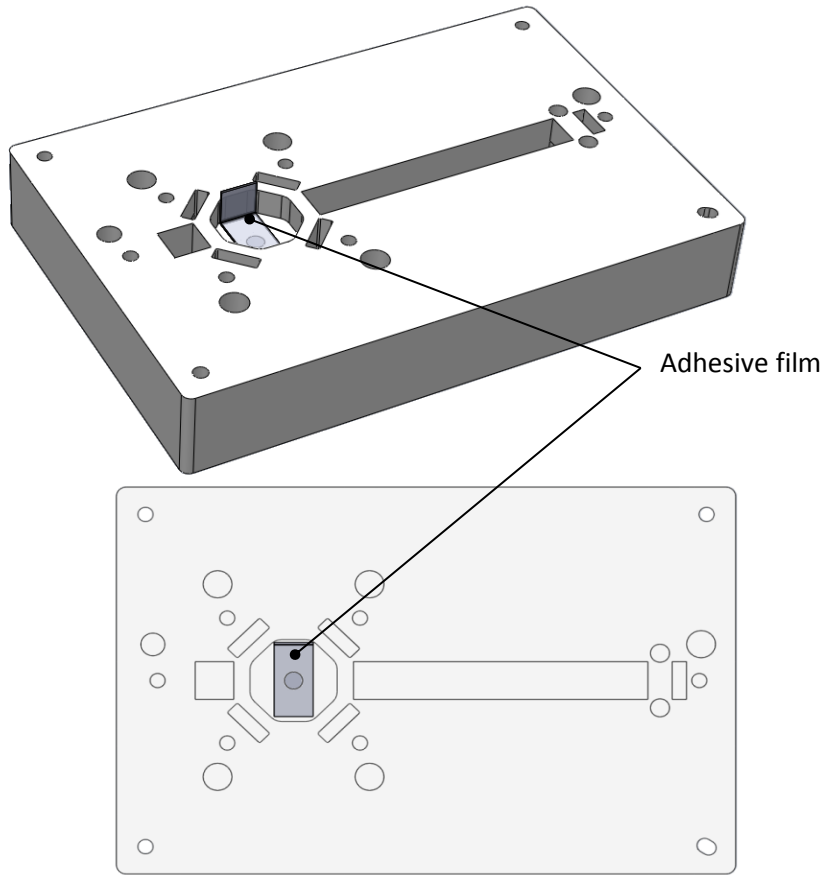

Figure 6: Cartridge with adhesive film over extraction well
- Remove the white backing from the piece of PCR tape and place it on top of the extraction well as shown in **Figure 6**. One edge of the film should stick up above the cartridge slightly to allow for easier removal of the adhesive film after the run. With a gloved finger, firmly press down on the film, ensuring a good seal on all edges and taking care to avoid wrinkles and bubbles.